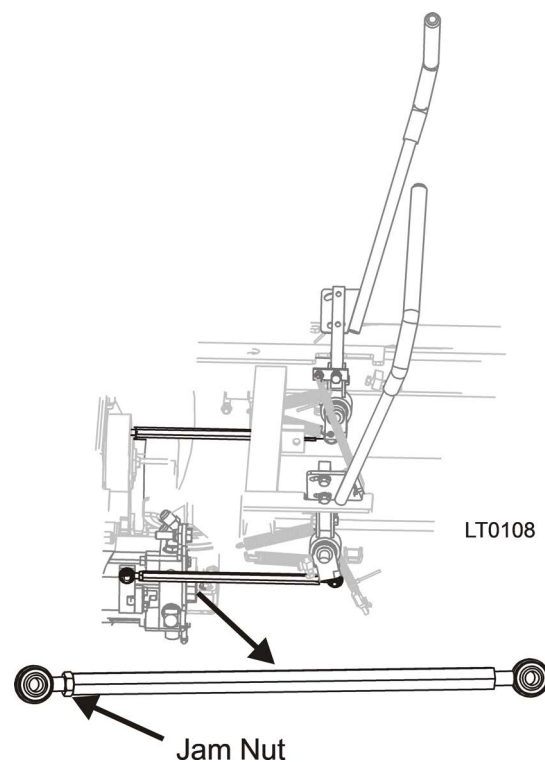

FIG. 3-3
4. If either drive tire rotates, adjust the hydrostatic pump link arm for that tire. See Figure 3-3.
- a. Loosen the jam nut from the hydrostatic pump link arm. *(The jam nut is located between the rod end and the link arm).* See Figure 3-3.